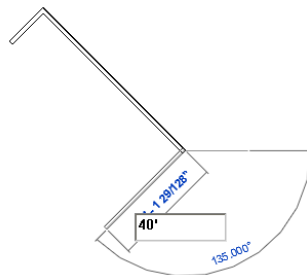

Figure 3-45 Sketching the third inclined wall segment
6. Similarly, for creating the next wall, move the cursor downward to the left and choose the perpendicular snap override as in step 5. Enter **40'(12192 mm)** as length, as shown in Figure 3-45. Now, press ENTER to create the third inclined wall.